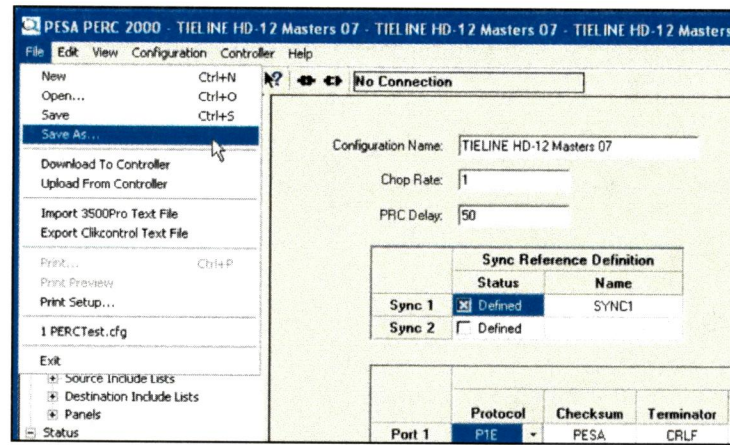

Figure 8. Save As Command Location
6. Click on the File menu in the Windows™ menu bar and select the **Save As** option from the menu as shown in Figure 8.